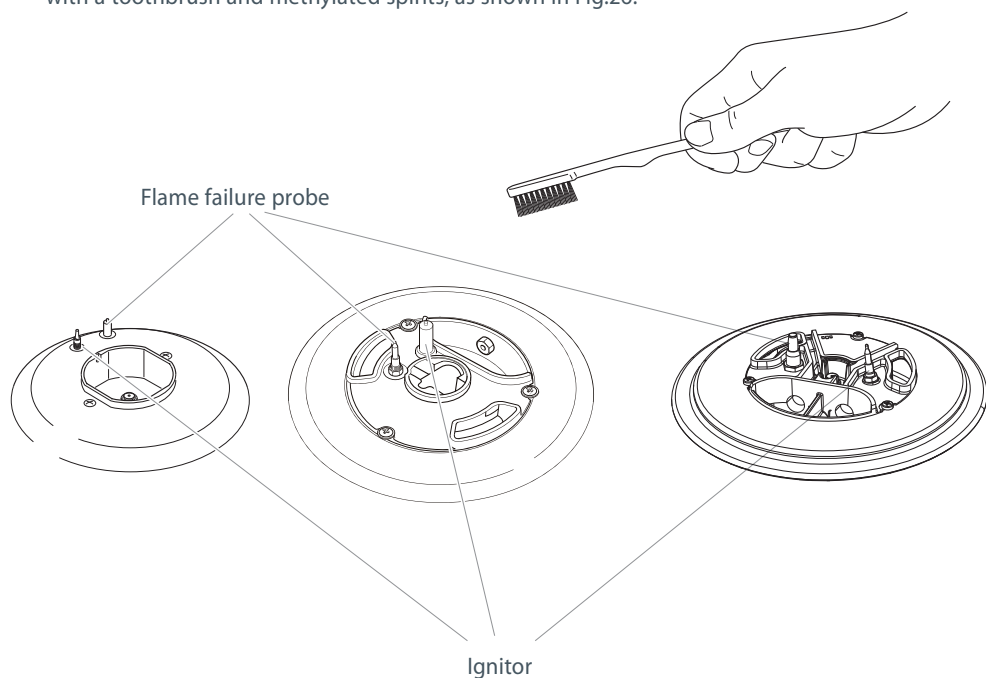

Fig. 26 Cleaning the probe and ignitor
- The ignitors are sparking. If the ignitors are not sparking, they may be dirty or wet. Clean them with a toothbrush and methylated spirits, as shown in Fig.26.
- Note: both the ignitor and probe must be very carefully cleaned using a toothbrush and methylated spirits (see Fig.26).
Note: both the ignitor and probe must be very carefully cleaned using a toothbrush and methylated spirits (see Fig.26).